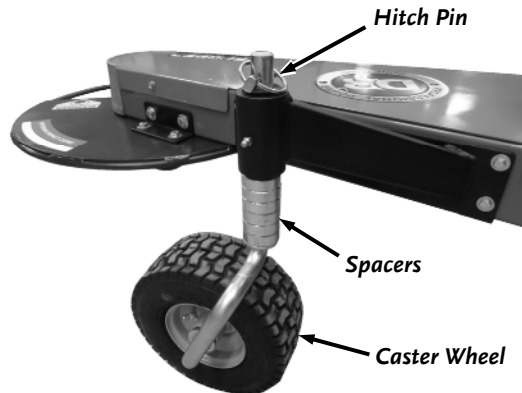

Figure 5
4. Install the Spacers onto the Caster Wheel Shaft (**Figure 5**).